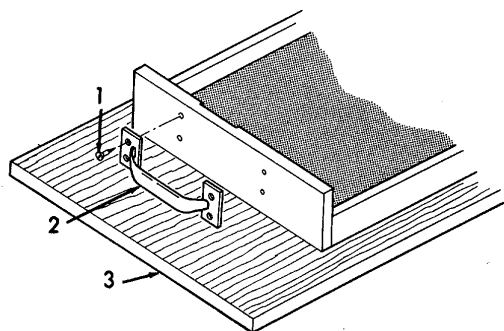

Figure 5-17. Handle, Replacement.
(3) Replacement of the handle as follows (refer to Figure 5-17):